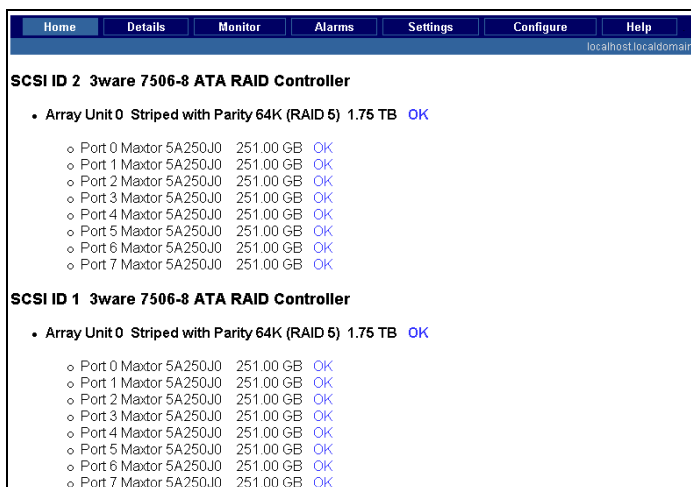

FIG. 1 Disk Management Utility - Home page
3. Press **Enter** to open the Disk Management Utility - Home Page (FIG. 1).